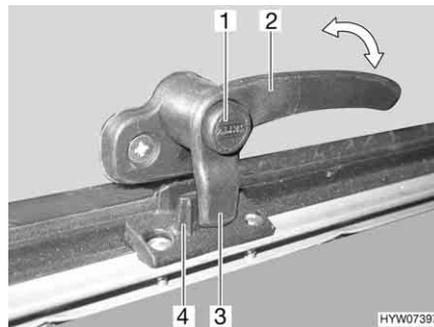
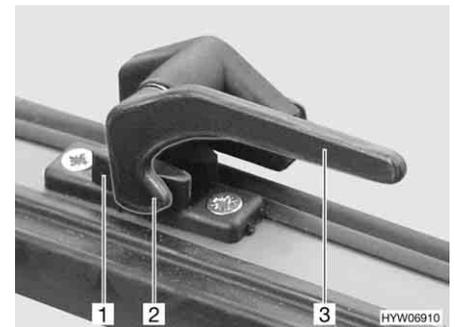

Fig. 47 Catch lever with safety knob in "closed" position
Fig. 48 Catch lever in "closed" position
- Press and hold the security button (Fig. 47,1), if present.
- Turn the catch lever (Fig. 47,2 or Fig. 48,3) a quarter turn towards the centre of the window.
- Turn the catch lever (Fig. 47,2 or Fig. 48,3) a quarter turn towards the window frame. The locking catch (Fig. 47,3 or Fig. 48,2) on the catch lever is entirely on the inner side of the window catch (Fig. 47,4 or Fig. 48,1).
- "Firmly closed" (Fig. 47 and Fig. 48)